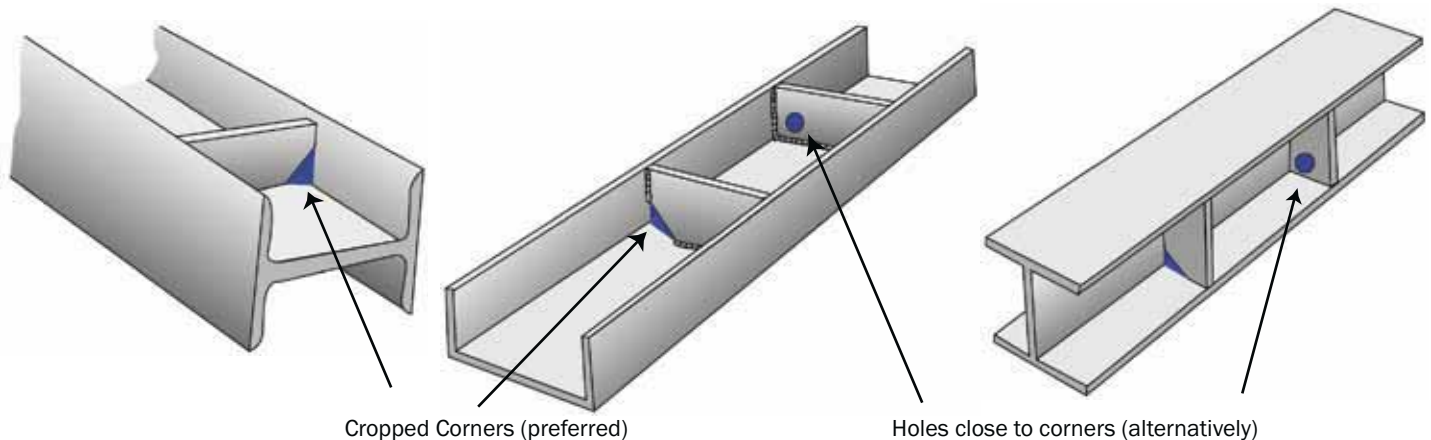

Figure 8: Cropped gusset plate corners
- To ensure unimpeded flow of solutions, all stiffeners, gussets, and bracing should be cropped a minimum of 3/4-inch (19 mm) (*Figure 8*). Provide holes at least 1/2-inch (13 mm) in diameter in end-plates on rolled steel shapes to allow molten zinc access during immersion in the galvanizing bath and drainage during withdrawal.